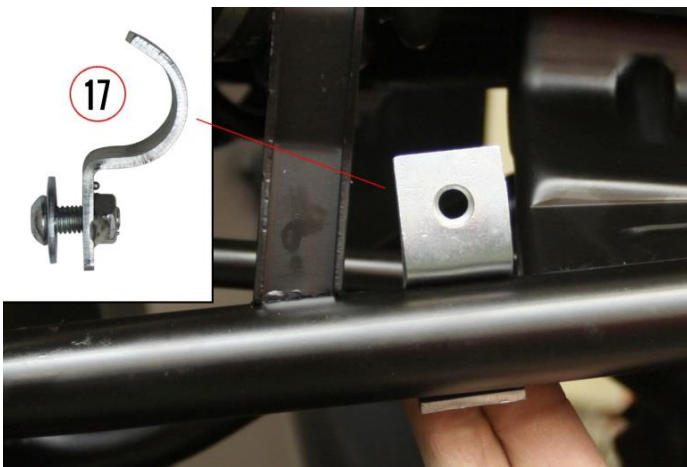

Fig. 6
4. If you wish to install front A-arm guards [4] a [5], first install clamps (18), Fig. 3. Do not tighten the screws now so that the clamps can be positioned on the A-arm tubing (Fig. 6). Install guard on appropriate holes and tighten screws (10) and (14) with washers 6x20 fingertight. Adjust guard position and while tightening screws constantly check whether guards are still perpendicularly to A-arms. Turn the front wheels fully right and left to check if in any position there is no contact between guard and wheel. If so, loosen the screws and adjust guard position. Make sure that there is enough space between Front Skid Plate [3] and A-arm guard to avoid contacting them when suspension is fully compressed.
Thanks to sufficient space for hands it is possible to install A-arm guards clamps (18) a (19) after attaching guard to the A-arm. First clamp the guard with screws (10) and (14) (front A-arm), or with screws (15) (rear A-arm). Hold clamp (without screw from the other side) onto A-arm tube (clamp orientation - see Fig. 3), move the thread against the guard hole and fix the clamp with screw, see Fig. 6 and 7. Positioning and tightening of guards - see Points 4. or 5. respectively.